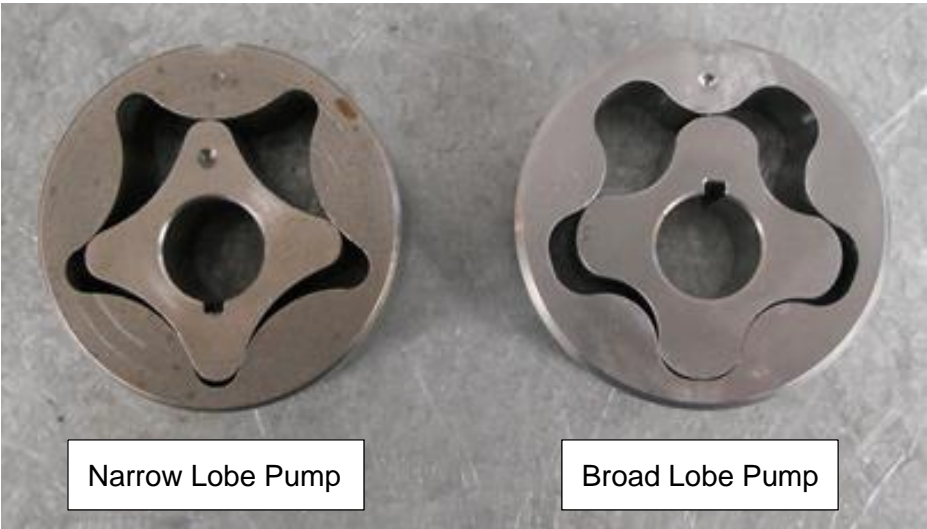

Figure 81 - Narrow and broad lobe pumps
- The difference between the narrow and broad lobe pumps is illustrated below in Figure 81.
It should be noted that some of the broad lobe inner gears have a line marking, as shown in the figure below, this should be installed face down. In other words the line on the inner gear should not be visible at the same time as the dot on the outer gear (like in Figure 81 above). Inner gears with no markings are non-directional.